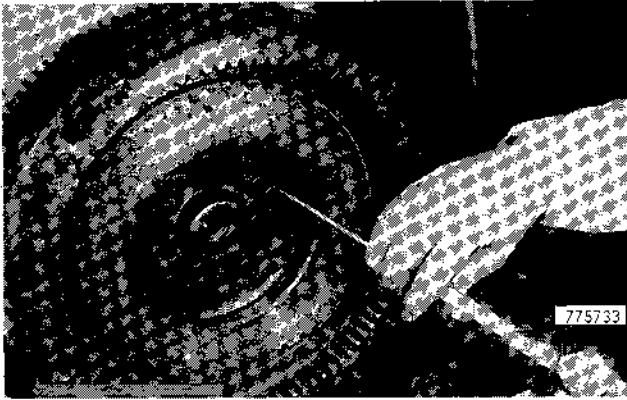

Figure 109
14. Bend the tabs on the tab plate over the nuts, Figure 109.